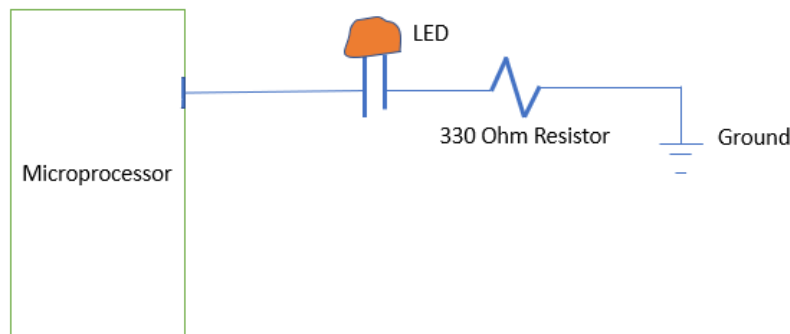

Figure 1. Circuit sketch
1. Program an STM32F401RE microcontroller to toggle three LEDs at a given interval. The program configures three pins as output pins. Use PA5, PA6, and PA7 as output pins in your program if they are functional. These pins are connected to a circuit placed on a breadboard. Each LED is connected in series with a $330\Omega/220\Omega$ resistor. Figure 1 shows a sketch. The program repeatedly sends HIGH and LOW signals at a predetermined time interval such that the LEDs toggle in a sequence.